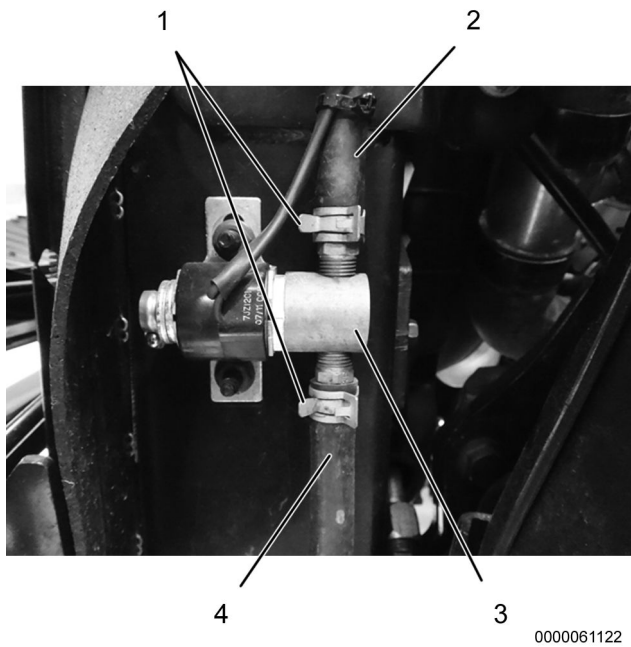

Figure 7. FCV.
1. Pinch-off pliers (2)
13. Remove two hose pinch-off pliers (Figure 7, Item 1) from inlet and outlet hoses (Figure 7, Items 2 and 4) to FCV (Figure 7, Item 3).